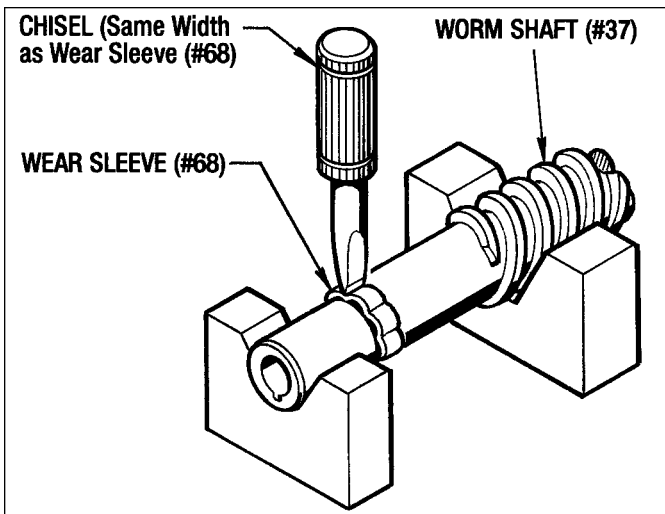

Figure 7.7 - Removing Wear Sleeve (#68)
1. Remove the Brake End Housing (#309) by taking out the (6) Screws (#316) and (6) Lockwashers (#320).
3. Take the Brake Stack Assembly (#337) off the Hub spline (#302) by loosening the (4) Shoulder Bolts in the Stack.
- Remove the Adapter (#308) from the Main Housing Assembly by taking out the (4) Screws (#315) and (4) Lockwashers (#319). Remove and discard Gasket (#322).
- Place the Worm Shaft (#37) into a suitable V-Block Support and with a chisel the same width as the Wear Sleeve (#68) make about 5 or 6 notches in the Wear Sleeve. The Wear Sleeve (#68) can now be removed from the Worm Shaft. (See Figure 7.7)
6. Place the Worm Shaft (#37) into a suitable V-block support or vice and with a chisel the same width as the Wear Sleeve (#69) make about 5 or 6 notches in the Wear Sleeve. The Wear Sleeve (#69) can now be removed from the Worm Shaft. (See Figure 7.7)